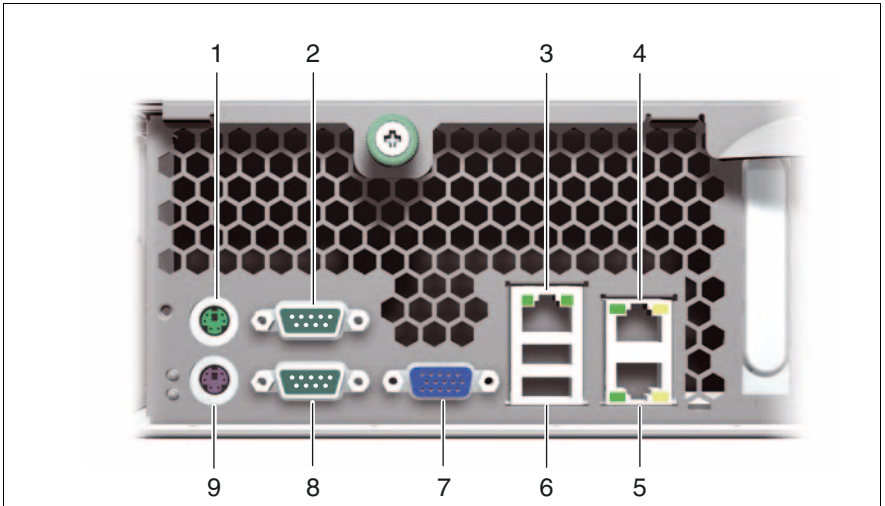

Figure 8: Ports on the rear
The standard ports (figure 8) are marked with symbols, and some are color-coded:
- ▶ Connect the monitor, keyboard and mouse to the standard ports of the server (see table and figure 8 on page 45).